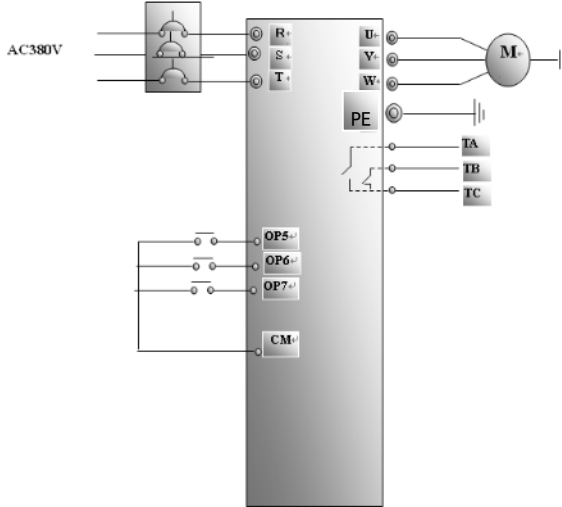

Figure 4-2 Wiring Diagram 2
- (1) Connect the wires in accordance with Figure 4-2. After having checked the wiring successfully, switch on the air switch, and power on the inverter: